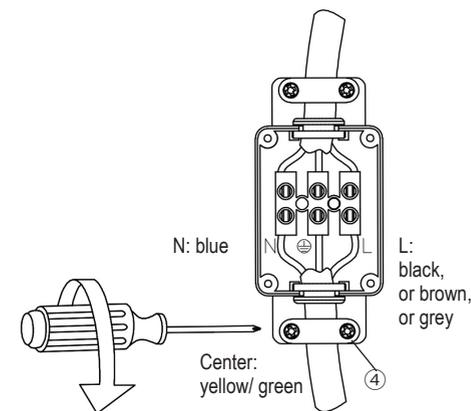

fig. 2
fig. 2: Prepare the cable in according to statutory regulations. Loosen the 4 screws of the junction box ①, open the box and connect the wires according the marks and seal the cable properly. Fasten the strain relief ④ with the 2 screws.